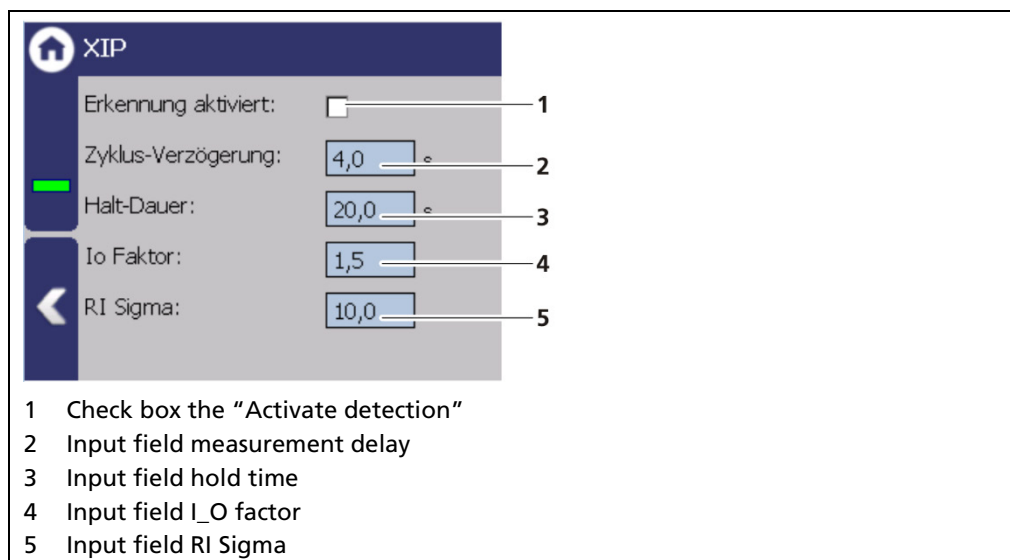

Fig. 107 Signal Condition (Radiation Interference)
This function allows you to take interference (XIP) into consideration. Measurement jumps that influence the process can arise through interference. Only rapid increases are considered. If detection (Fig. 107, item 1) is activated, the last valid measured value is frozen.